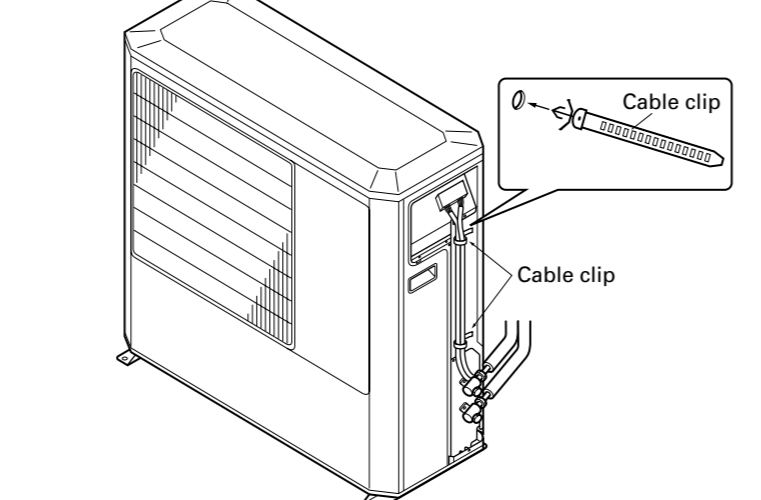

Fig. 41
- Fasten the power cord and connection cord with cable clip and binders as shown in (Fig. 41)